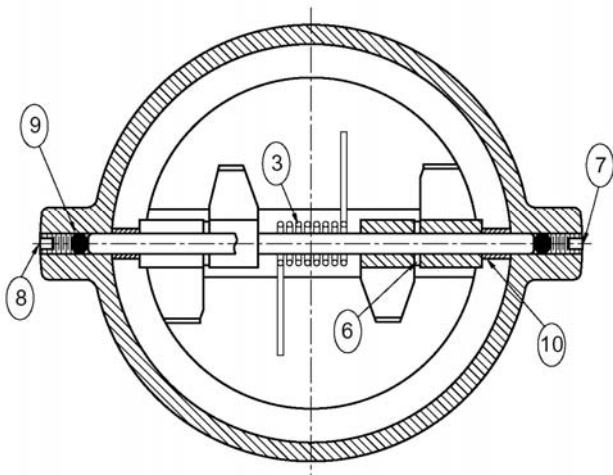

FIGURE 2. DUAL DISC® CHECK VALVE
The standard check valve body (1) is constructed of cast ductile iron. See the specific Materials List submitted for the order if other than standard iron construction. The internal metal components are bronze or stainless steel. The discs (2) and torsion spring (3) are the only moving parts and require no maintenance or lubrication. The general details of construction are illustrated in Figure 2.
The valve should be removed from the pipeline for disassembly. All work on the valve should be performed by a skilled mechanic with proper tools. Refer to Figure 2.